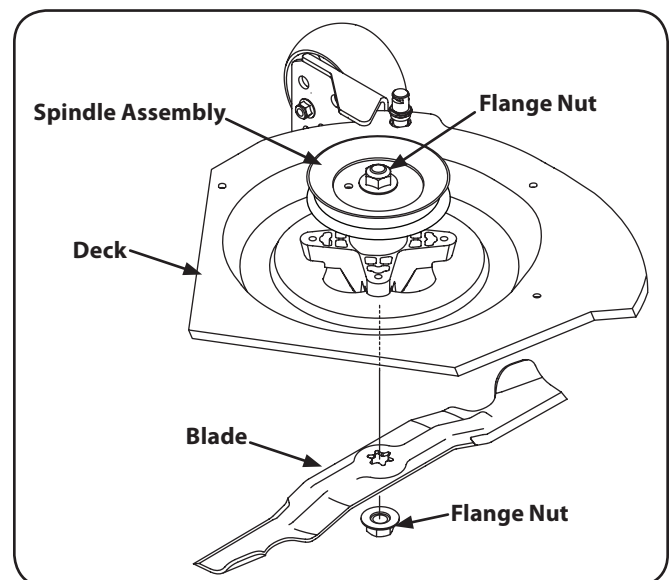

Figure 7-13
- Use a $\frac{15}{16}$ " wrench to hold the flange nut on top of the spindle assembly and using another $\frac{15}{16}$ " wrench on the flange nut securing the blade the blade, remove the blade. See Fig. 7-13.